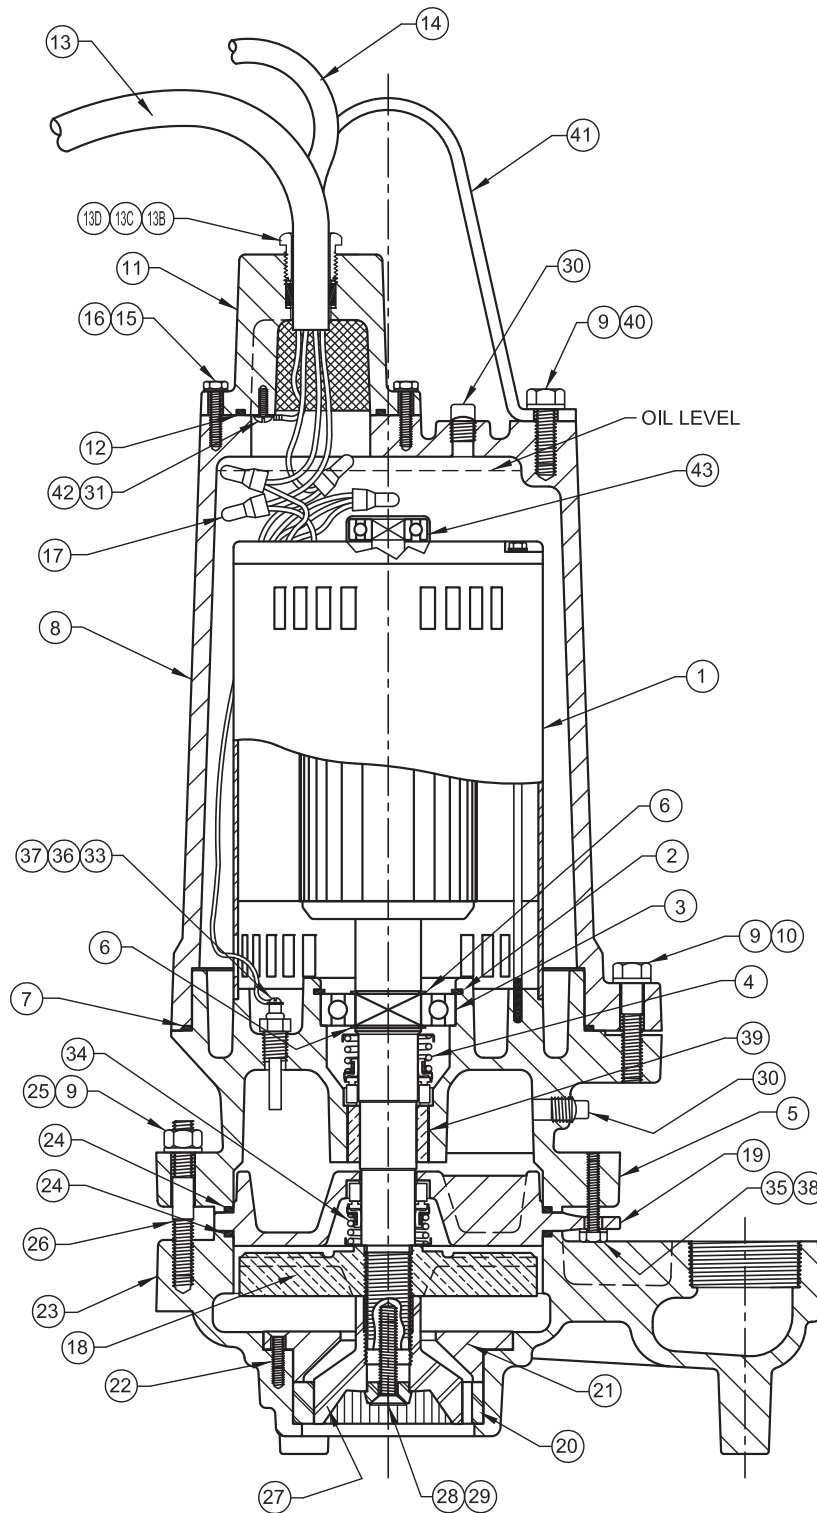

Figure 7
Cable Assemblies - Power cable, Place one friction ring (13C), grommet (13D), one friction ring (13C) and hex plug (13B) into conduit box (11). Control Cable, Place one friction ring (14C), grommet (14D), one friction ring (14C) and hex plug (14B) into conduit box (11). Torque hex plugs to 15 ft. lbs. to prevent leakage. See Figures 7 & 8.